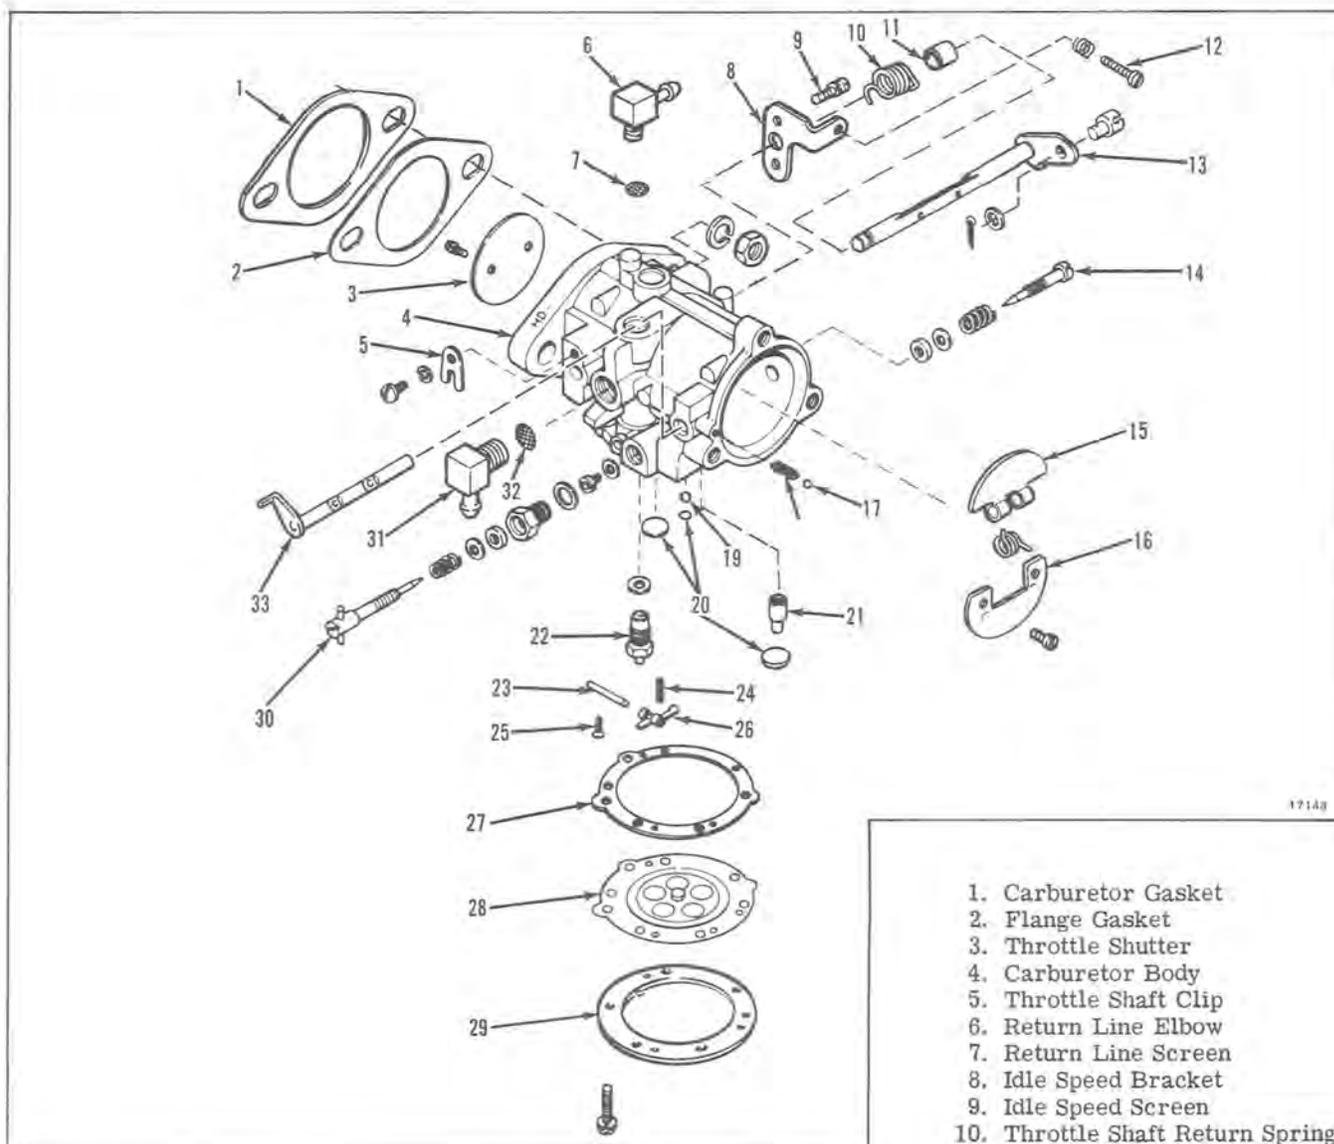

Figure 6-6
3. Assemble the gaskets, diaphragms and castings in the correct order. See Figure 6-6.